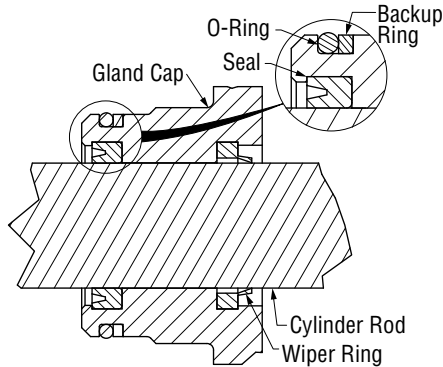

Figure 5-43, Gland Cap Seal
3. Use a spanner wrench or similar tool to unscrew the gland cap from the cylinder tube. (Figure 5-43)
4. Install the seals and wipers in the gland cap. Note the direction of the seals. The cupped side or O-ring side of the seal should be facing the piston. (Figure 5-43)